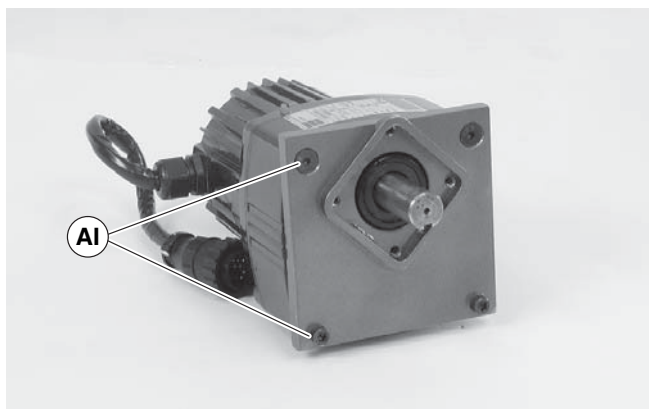

Figure 21
8. Remove four (4) adapter plate screws (Figure 21, item AI). Remove adapter plate.